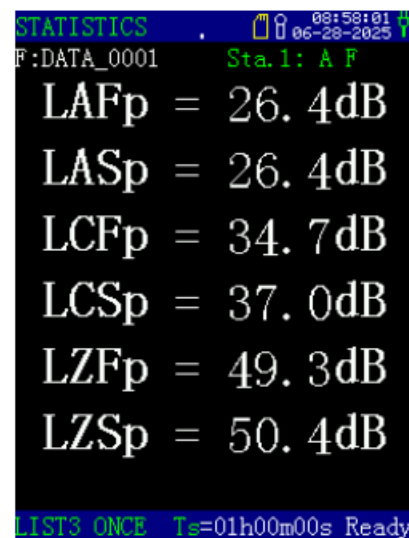

Figure 7.5 Statistics LIST3
- Under "List 3" the indicators include LAFp, LASp, LCFp, LCSp, LZFp, and LZSp, shown in Figure 7.5.